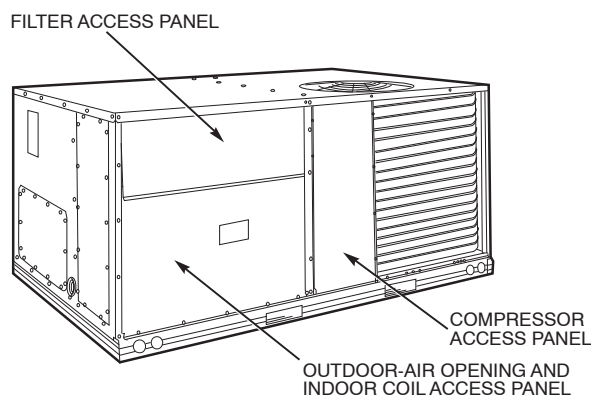

Fig. 1 - Typical Access Panel Locations
2. To gain access to the hood, remove the filter access panel. (See Fig. 1.)